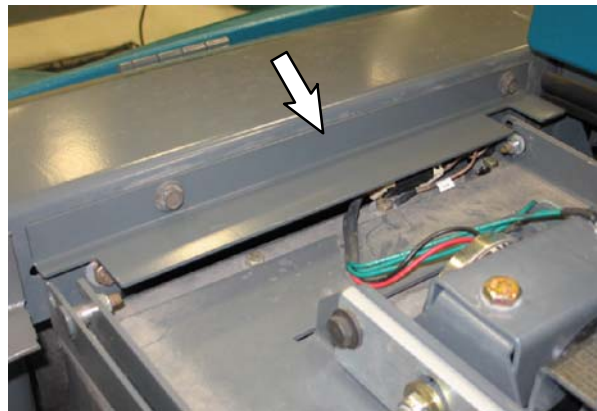

FIG. 48
- 63. Use two SEMS hex screws (11) to install the lintel angle bracket (10) onto the machine. (Fig. 48)